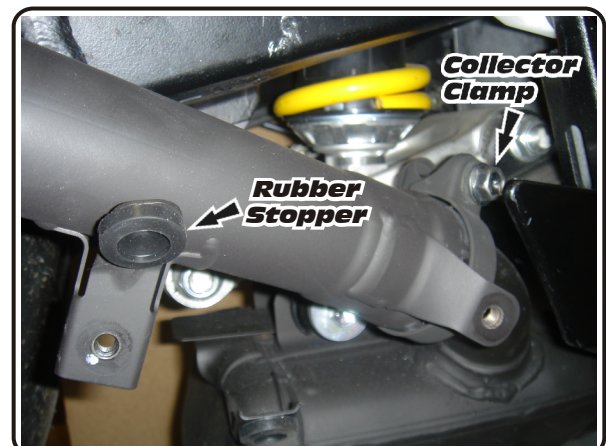

Fig. 2
- 2 Remove stock rubber stopper from stock right side tailpipe and install on right side Yoshimura tailpipe (see Fig. 2 for stock rubber stopper location).
- 3 Loosen left and right stock collector clamps (see Fig. 2 and 3).